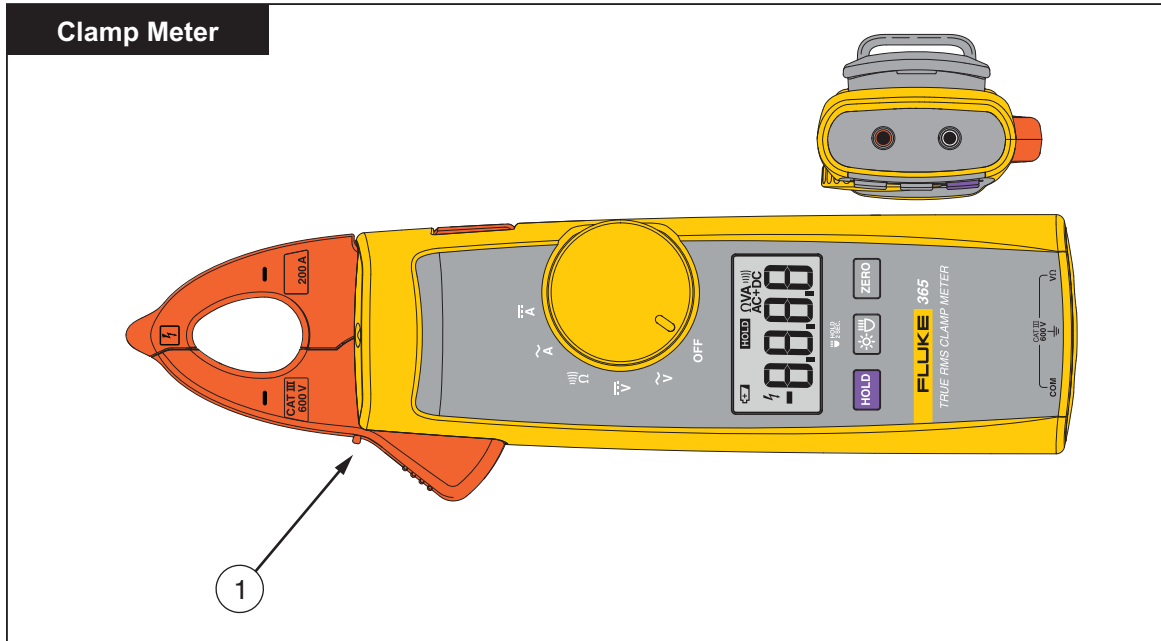

Figure 1. The Meter
- Hold the Product behind the tactile barrier. See Figure 1, ①.